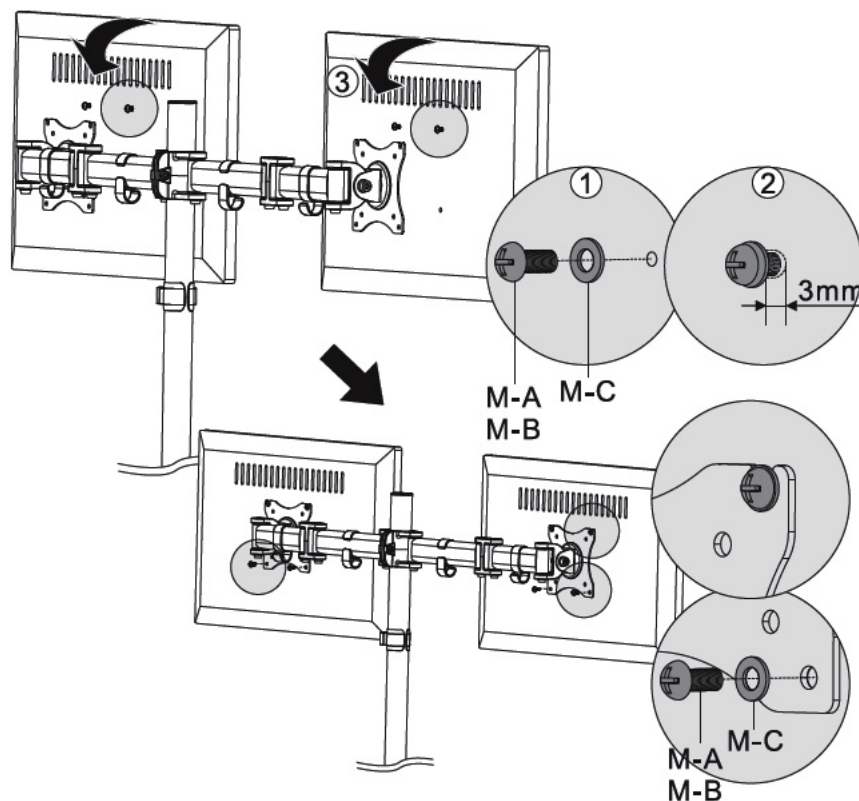

Figure 8
3. Mount the monitor to the Vesa plate. Use either M4x12 Bolt (M-A) or M5x12 Bolt (M-B) with Washer (M-C) and tighten them using a Phillips screwdriver, see **Figure 8**.